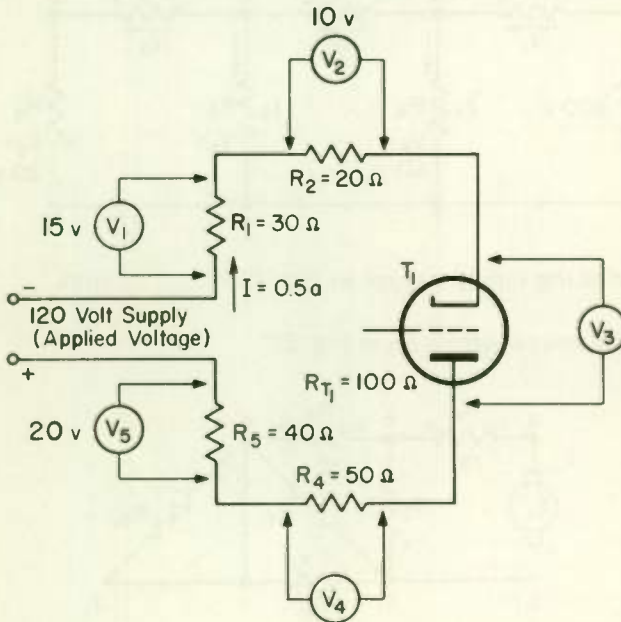

Fig. 19
5. In Fig. 19 voltmeters are shown connected across the various circuit elements to read the voltage drops. Voltmeter V_3 reads the plate-to-cathode voltage of the tube. How much is this voltage? (Since the voltage across the tube is caused by the plate-cathode resistance, polarity is the same as for a resistor.)